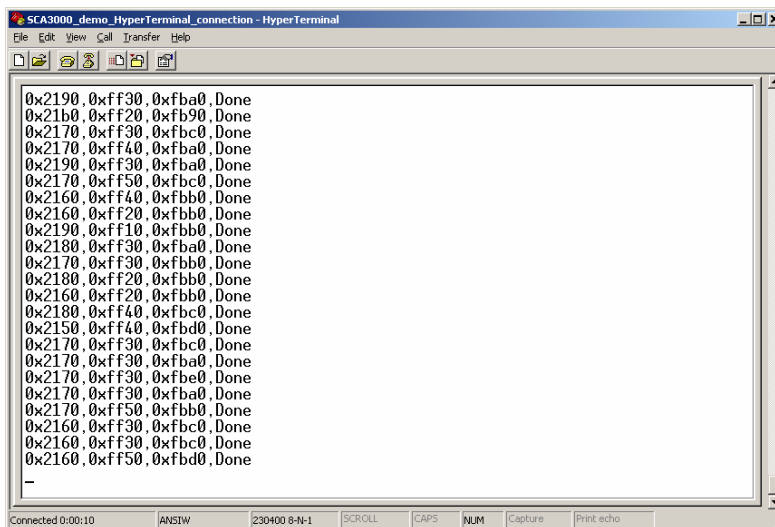

Figure 6. CMR3000 demo output during data logging.
7. The text file is a macro that runs in an endless loop. The macro sends 3-axis angular rate data in hex format to HyperTerminal (see Figure 6). Example of data format: